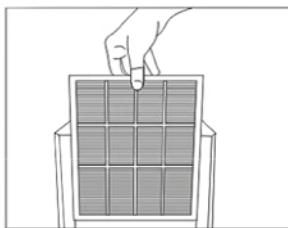

fig. 4
- 2.Catch the filtration mesh handle and pull upwards.(shown as fig.4)